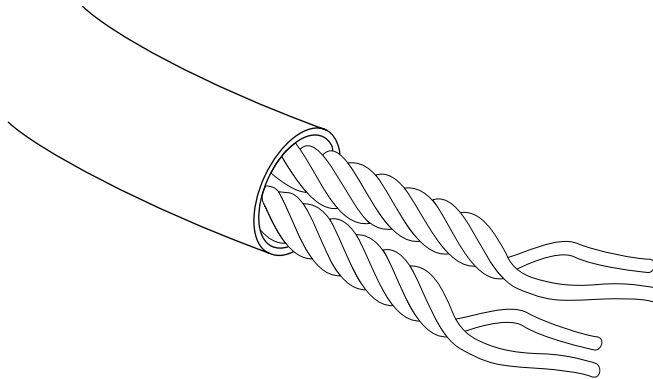
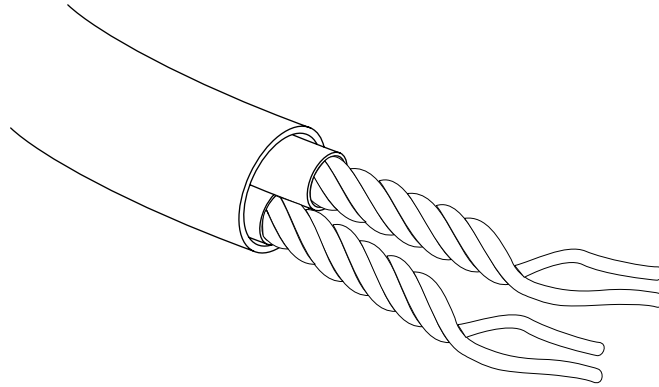

FIG. 11.7 An unshielded twisted pair cable.
FIG. 11.8 A shielded twisted pair cable.
*Twisted pair* cable is just what its name implies: insulated wires within a protective casing, with a specified number of twists per foot. Twisting the wires reduces the effect of electromagnetic interference on the signals being transmitted. *Shielded twisted pair (STP)* refers to the amount of insulation around the cluster of wires and therefore its noise immunity. You are familiar with *unshielded twisted pair (UTP)*; it is often used for telephone wiring. Figure 11.7 shows unshielded twisted pair cable; Figure 11.8 illustrates shielded twisted pair cable.